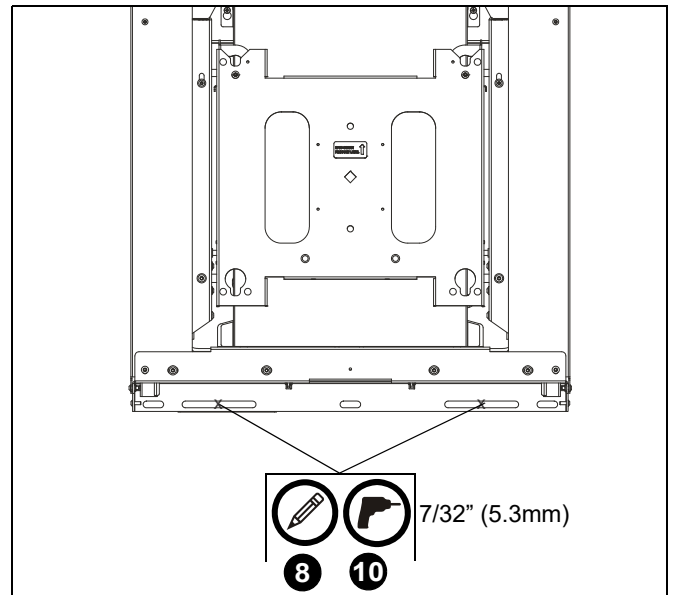

Figure 4
8. Mark hole locations for lower two mounting holes. (See Figure 4)
9. Remove mount (A) from top bracket.
10. Drill two 7/32" holes at marked hole locations. (See Figure 4)